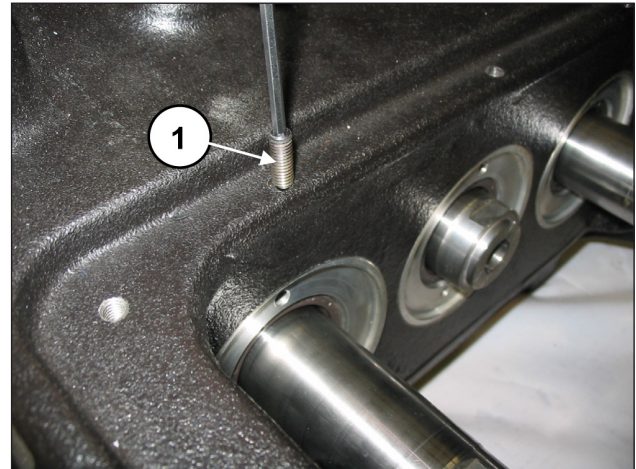

Fig. 3
Unscrew the M6 locking grub screws of the three oil seal covers (pos. ①, Fig. 3).